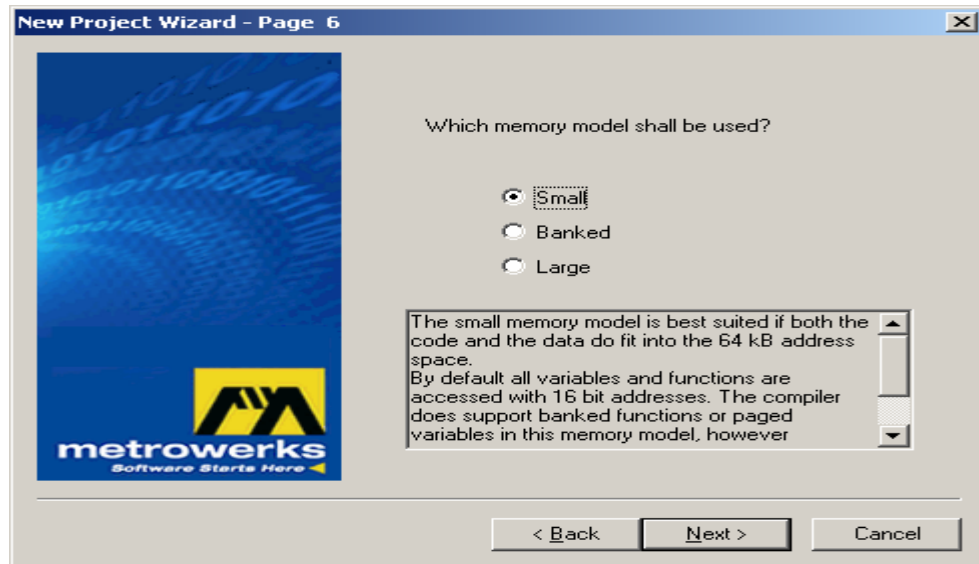

Figure 8
k. **Figure 8-** Select **Small** for memory model